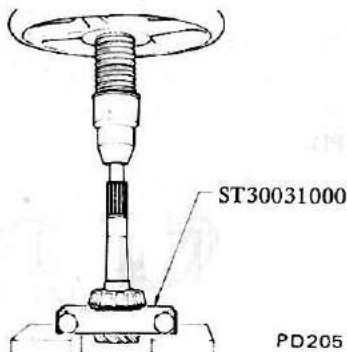

Fig. PD-10 Removing pinion rear bearing inner race
5. Hold rear bearing inner race with Drive Pinion Rear Bearing Inner Race Puller ST30031000 and extract from drive pinion with a press. See Figure PD-10.